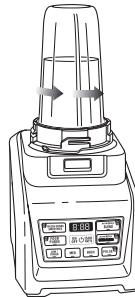

Fig. 5
- 9 Once you have reached your desired consistency, stop the appliance by pressing the power button and wait for the Pro Extractor Blades™ Assembly to stop turning. Turn the Nutri Ninja® Cup anticlockwise and pull straight up to remove. **(Fig. 5, Fig. 6)**